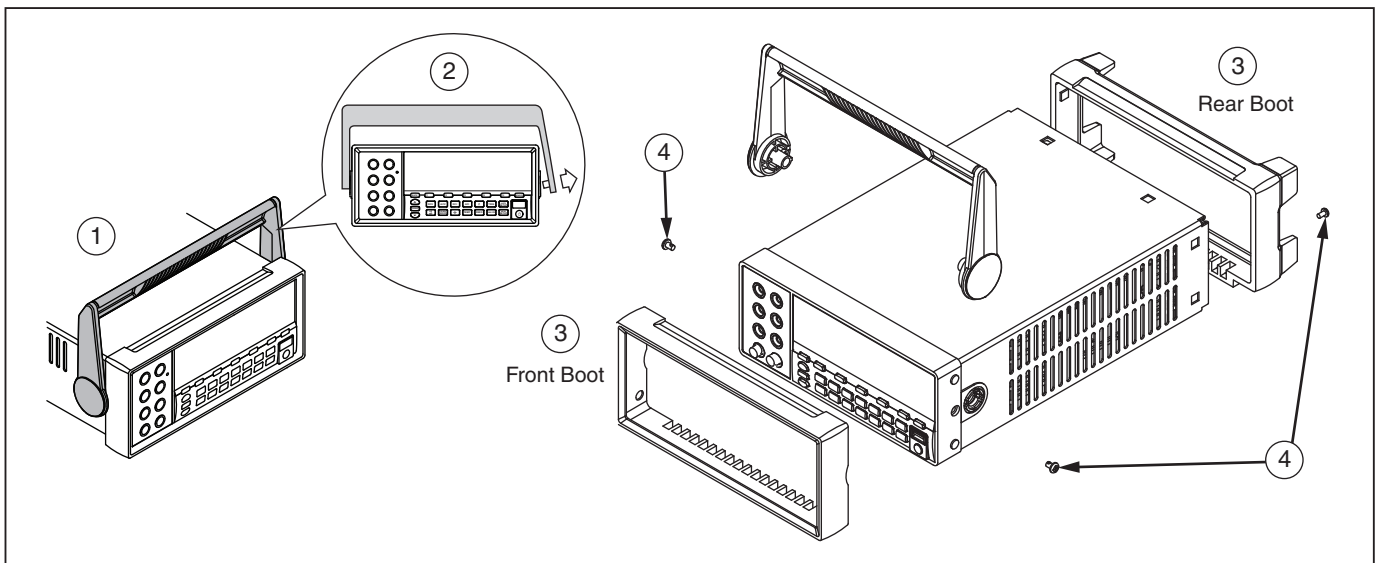

Figure 1. Handle and Boot Removal
1. With the Meter flat on the desk, rotate the Meter handle to the vertical position over the top of the Meter as shown in Figure 1.
2. Remove the handle by pulling one side of the handle outward, away from the Meter until free, as shown in Figure 1. Then pull the other side of the handle out, away from the Meter.